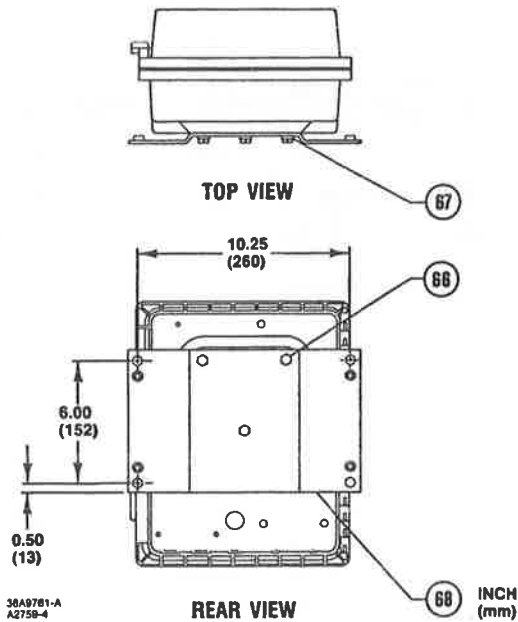

Figure 2-3. Wall Mounting
Refer to figure 2-3. Drill holes in the wall (using the dimensions in figure 2-3) to align with the four holes in the bracket (key 68). If the tubing is to run through the wall, drill a hole in the wall large enough to accept the tubing.